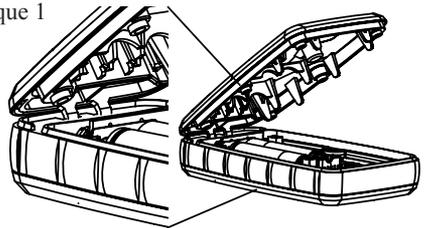

Figure 11. Battery cover and the screws holding the cover
2. Carefully remove the cover by lifting up the front end of the cover (see fig. 11).
6. Close the cover by first inserting the backside of the cover in the transmitter, and the pressing the front down (see fig. 11).